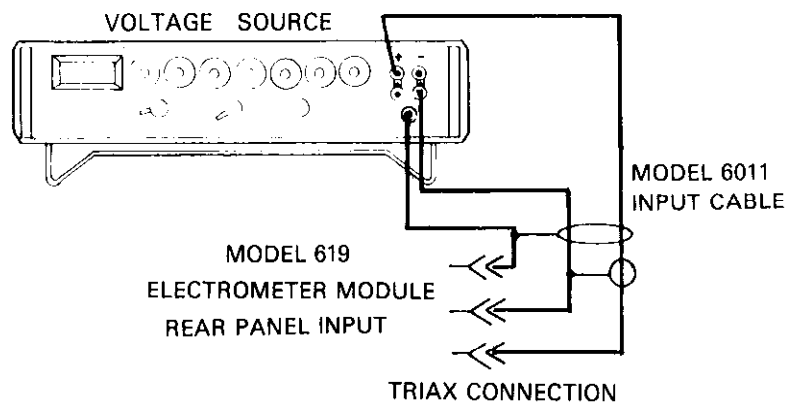

Figure 6-4. Supply Calibration 2 Volt
3. 2 Volt A/D Reference Supply Calibration: Up-range the Model 619 to the 2 Volt range, and apply +1.9000 Volts to its input. Adjust R415 for a display reading of +1.9000 +0 to within  $\pm 1$  count. Refer to Figure 6-4.